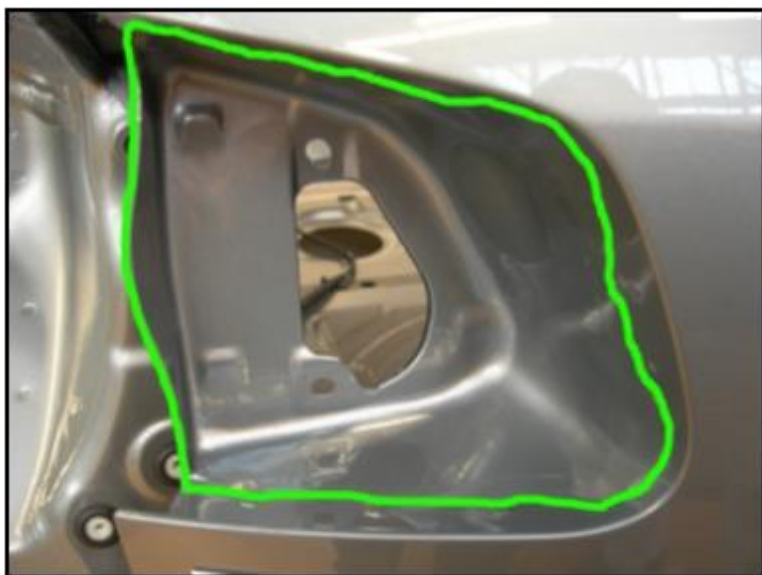

Figure 5
- Clean rear lid (left and right) around the taillight cut-outs with silicone remover (Figure 5) (use part no. LVM 020 000 A5 or equivalent).
- Apply new sealant around the areas where the metal overlap in the inner taillight cut-outs (left and right) (Figure 5, green line) using part no. AKD 476 KD5 05).